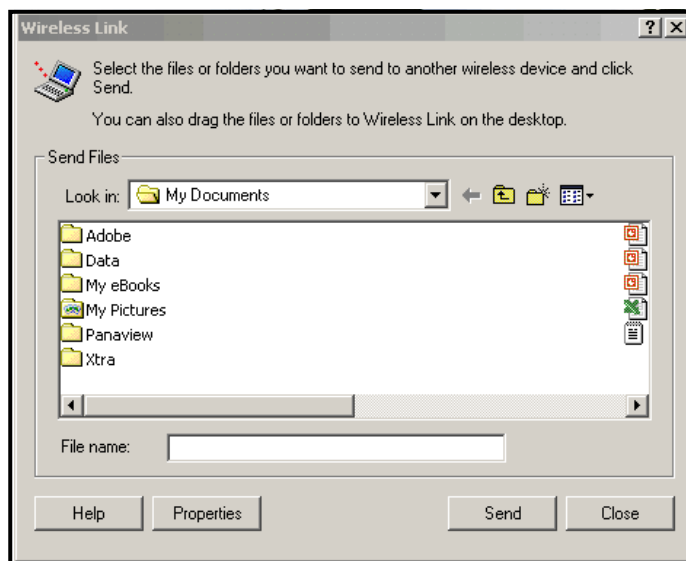

Figure 61: *Wireless Link* Window
1. Click on the *Infrared* icon in the System Tray – . A window similar to Figure 61 appears.
A window similar to *Figure 61* appears.